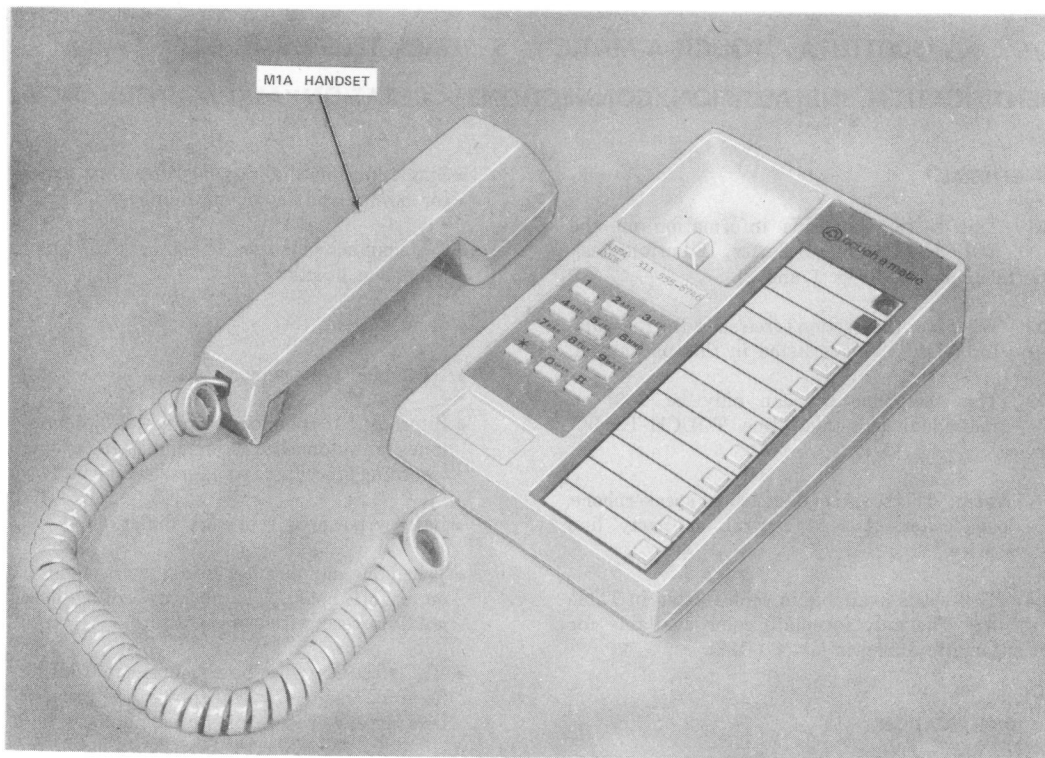

Fig. 1—5001T01A Telephone Set
1.01 This section contains information on the TOUCH-A-MATIC S Series, 12-button, desk type telephone set (Fig. 1 and 2).